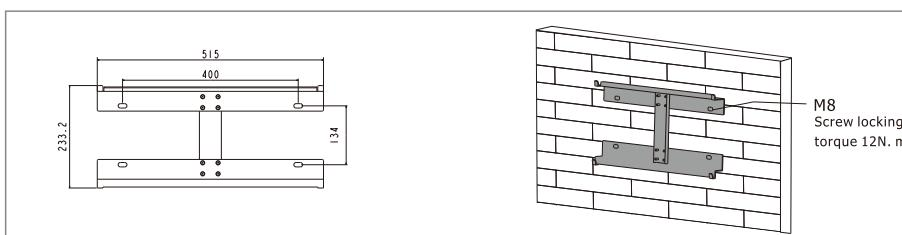

Figure 3.4-1 Install the inverter hanging plate
Step 1. Please use the mounting bracket as a template to drill 4 holes in the right positions (10mm in diameter, and 80mm in depth). Use M8 expansion bolts in accessory box and fix the mounting With a 12mm drill bracket onto the wall tightly. The installation of inverter support is shown in Figure 3.4-1.